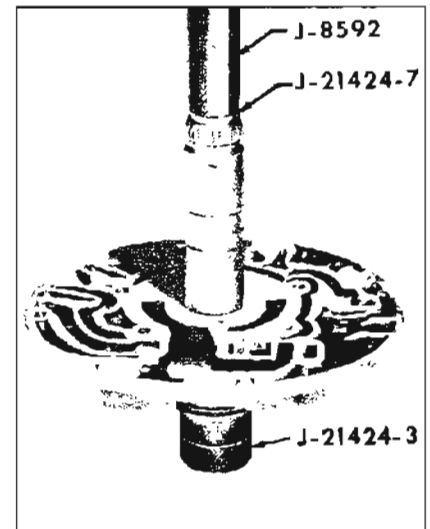

Figure 5-203
1. Install stator shaft bushing as follows: Support pump assembly on J-21424-7 before installing bushing. Install bushing into the front end of stator shaft. Using Installer J-21424-7 and Drive Handle J-8592 tap bushing into shaft until tool is flush with top of shaft. See Figure 5-203.